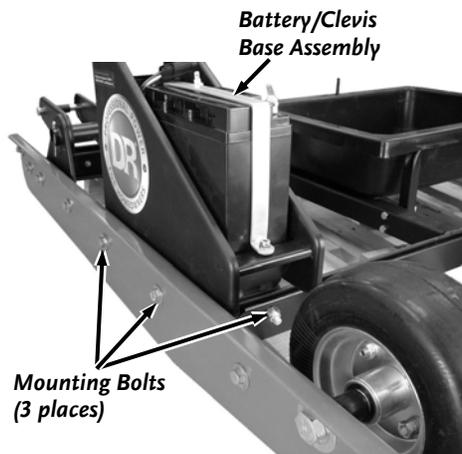

Figure 3
1. Move the Power Grader over so the left side hangs off the Pallet to allow you to reach the rear Mounting Bolt area (**Figure 3**).
2. Take note of the orientation as you remove the three loose Mounting Bolts, Washers and Lock Nuts from the Left Rear Side Frame Using two 9/16" Wrenches (**Figure 3**).